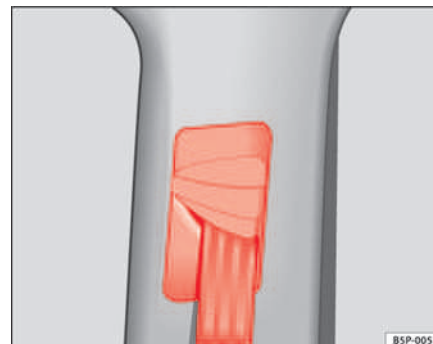

Fig. 17 Location of the belt height adjuster
- Press the upper part of the shoulder belt guide and hold it in this position ⇒ page 27, fig. 17.